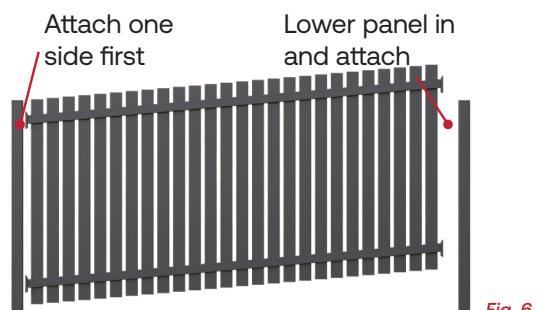

Fig. 6
5. Slope the top of the concrete to allow water to drain away from the post. *Fig. 6*
3. Place the panel between the posts into its correct position and attach the brackets to the post. Since PicketPanel can rake, once one side is attached, the other side can be easily lowered into position. *Fig. 6*